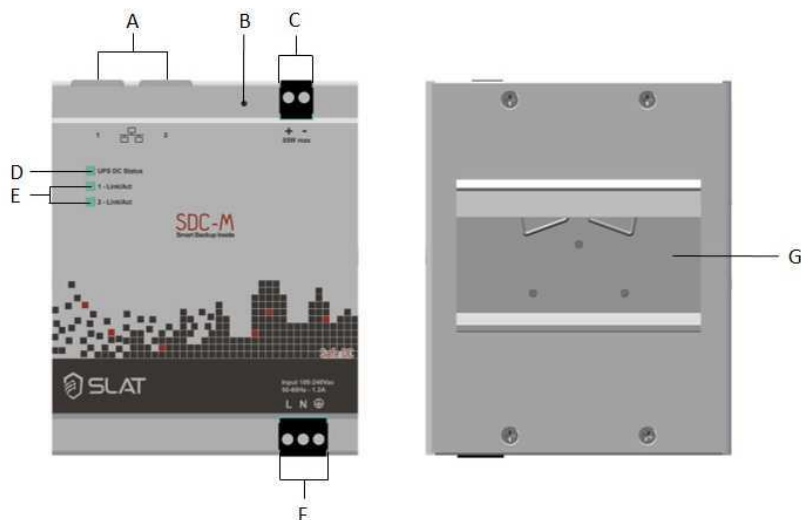

Figure 6.2: Product view
- For prolonged storage or disconnection, switch off the mains and press the stop button back-up function (see Figure 6.2 in chapter 6.4: Disconnect backup push-button).